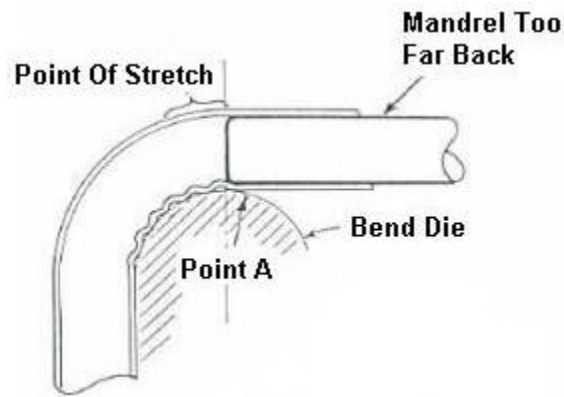
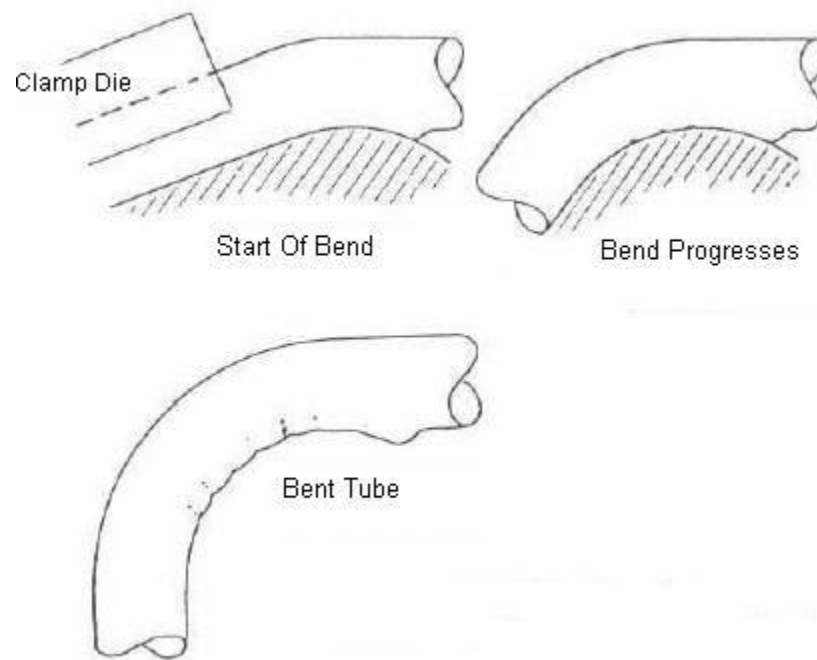

Figure 8
Figure 9
**Mandrel too far back:** Advancing the mandrel slightly forward, the wrinkles may stop forming in front and begin to form in back of tangent. **The mandrel at this point is still not far enough forward to generate the necessary pressure on the inside of the bend and compress the material.** The bend may start out smooth, but as it progresses past approximately 20 degrees, the material pushes back, forming a ripple or wave at point A (**Figure 8**). This ripple is forming and being flattened continually between the mandrel and the bend die. The ripple, however, does not entirely disappear. When the bent tube is removed from the bend die, there is a large buckle at point A. **It is necessary to continue to advance the mandrel until the material can't squeeze back between the bend die and mandrel.** **Figure 9** shows what occurs when the mandrel is not full advanced.